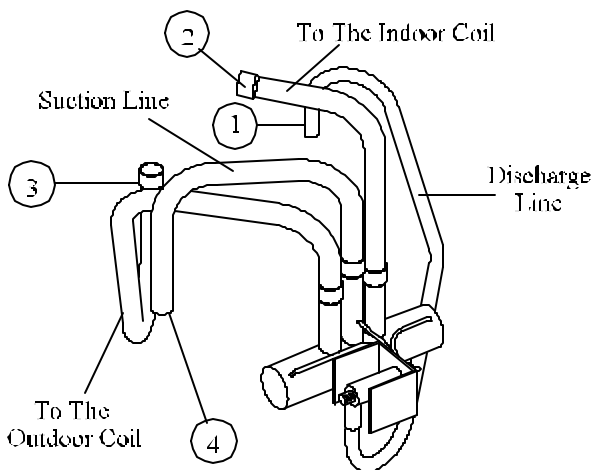

FIGURE 13
6. Unbraid plumbing points at 1, 2, 3 & 4 in Figure 13 (Protect wiring).